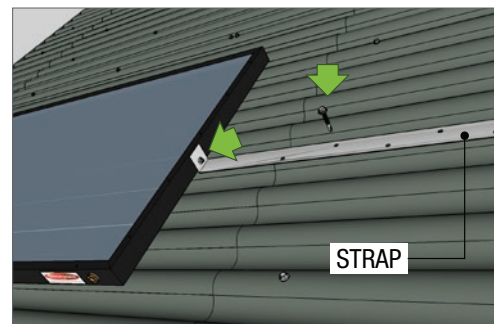
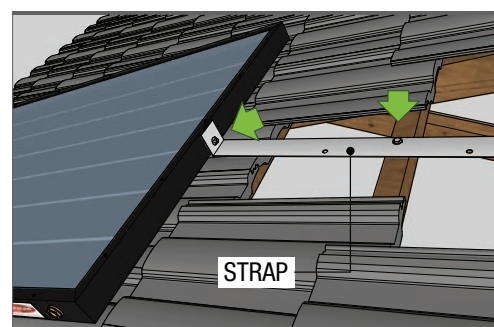

Fig 8
Fig 9
9. Fix the top collector strap to roof either directly through tin / metal sheet and into batten below (Fig 8) or by removing tiles and fastening directly to batten (Fig 9). Replace tiles back over the fastened strap